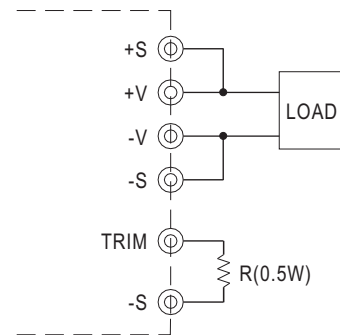

Fig. 3.2 Output voltage trimming
- (2) Connecting a resistor externally between TRIM and -S on CN1 or CN2 that is shown in Fig. 3.2.
- (3) +S & +V, -S & -V also need to be connected on CN1 or CN2.